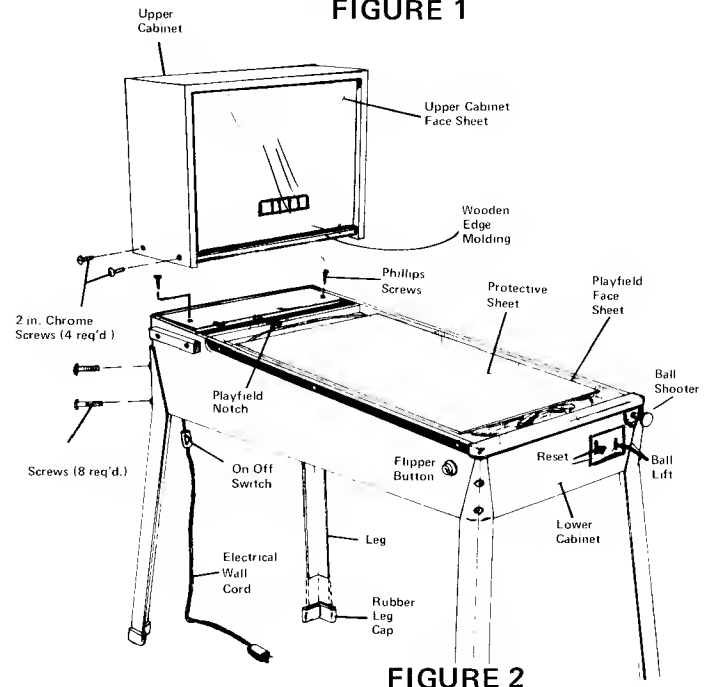

FIGURE 2
4. Carefully turn the **cabinet** to an up-right position. (**Figure 2**)
6. Again, carefully lift the **Playfield face sheet** and insert the three (3) **steel balls** into the **Playfield** at the **notch**. (**Figure 2**)
7. Remove the two (2) Phillips screws securing the inverted **scoring unit** at the upper end of the **Playfield**. Save the screws for reattachment of the **scoring unit**. (**Figure 2**)
8. Un-coil the **electrical wall cord** and drape over the rear of **lower cabinet**. (**Figure 2**)
10. Slide the upper cabinet **face sheet** into the guide slots at front of the **upper cabinet**. Make sure that all three edges of the **face sheet** are firmly seated in the grooves. (**Figure 2**)
11. Fit the wooden **edge molding** onto bottom of **face sheet** as shown in **Figure 2** with painted side of **edge molding** to outside.